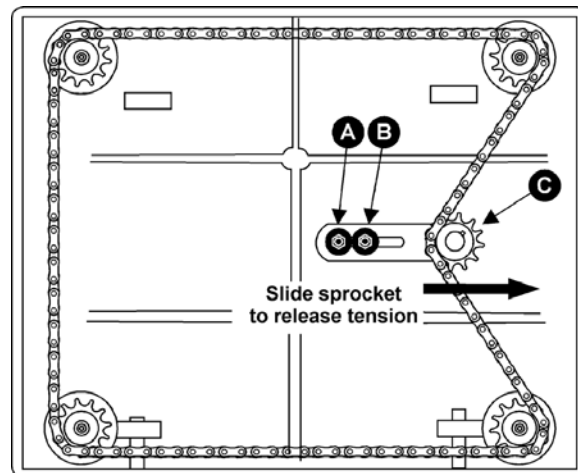

Figure 22
5. Remove bolts holding the planer to the stand. Carefully tilt planer on its side to expose underside of base (Figure 22).
6. Remove bolt (A, Figure 22) and loosen bolt (B, Figure 22) which will allow you to move the idler sprocket assembly (C, Figure 22) far enough to release tension on the chain.
9. When adjustments are correct, replace chain around corner sprocket, slide idler sprocket (C, Figure 22) back to re-tension chain, tighten bolt (B, Figure 22) and insert and tighten bolt (A, Figure 22).